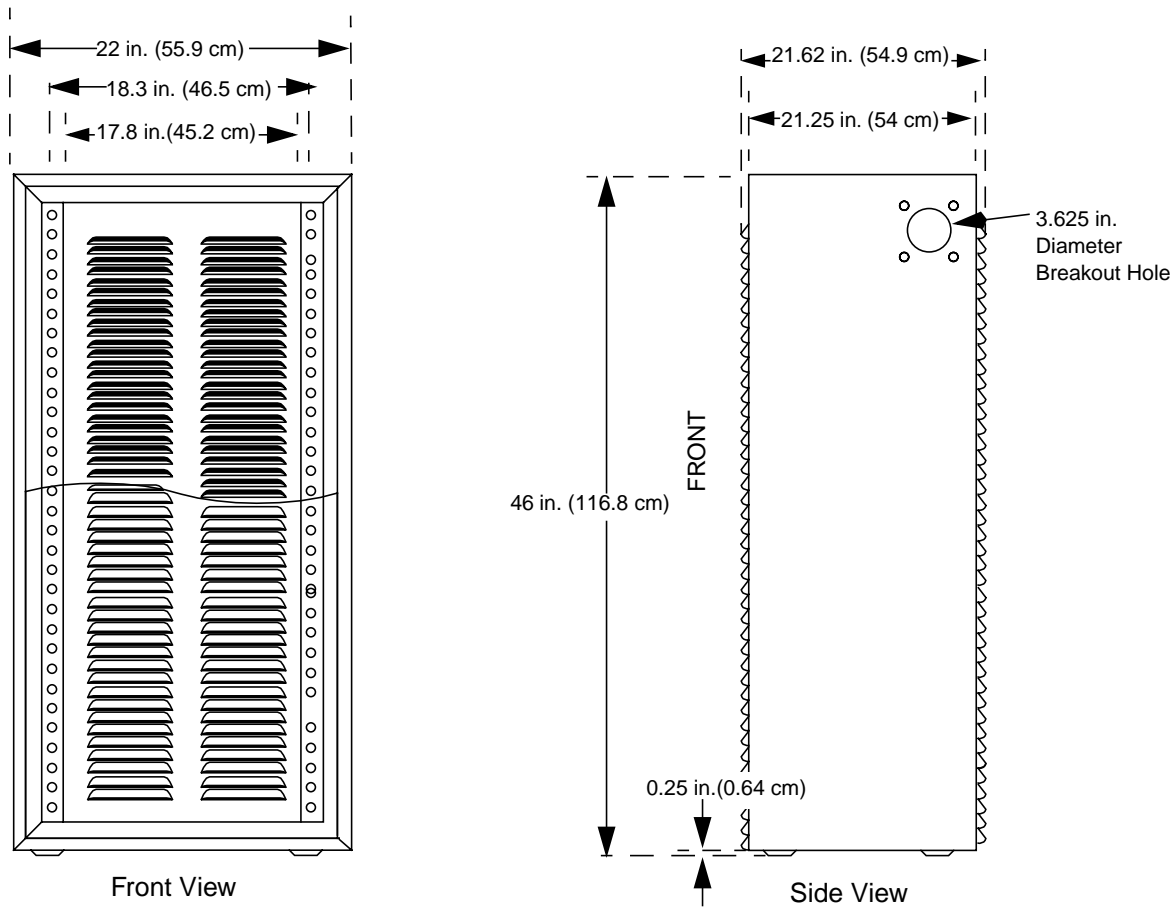

Figure 3-7: Front and Side View of the 46-in. Station Cabinet
- Front view (see Figure 3-7)
- Side view (see Figure 3-7)